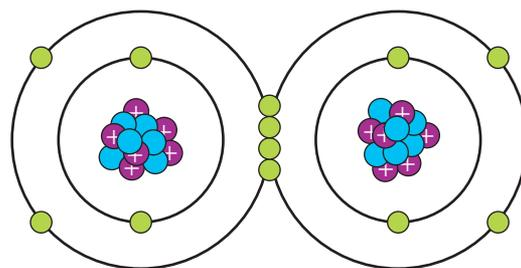

FIGURE 2 Two carbon molecules sharing two valence electrons each (covalent bonding) to form a carbon-carbon double bond.
- form single, double or triple **covalent bonds** between carbon atoms (Figure 2)